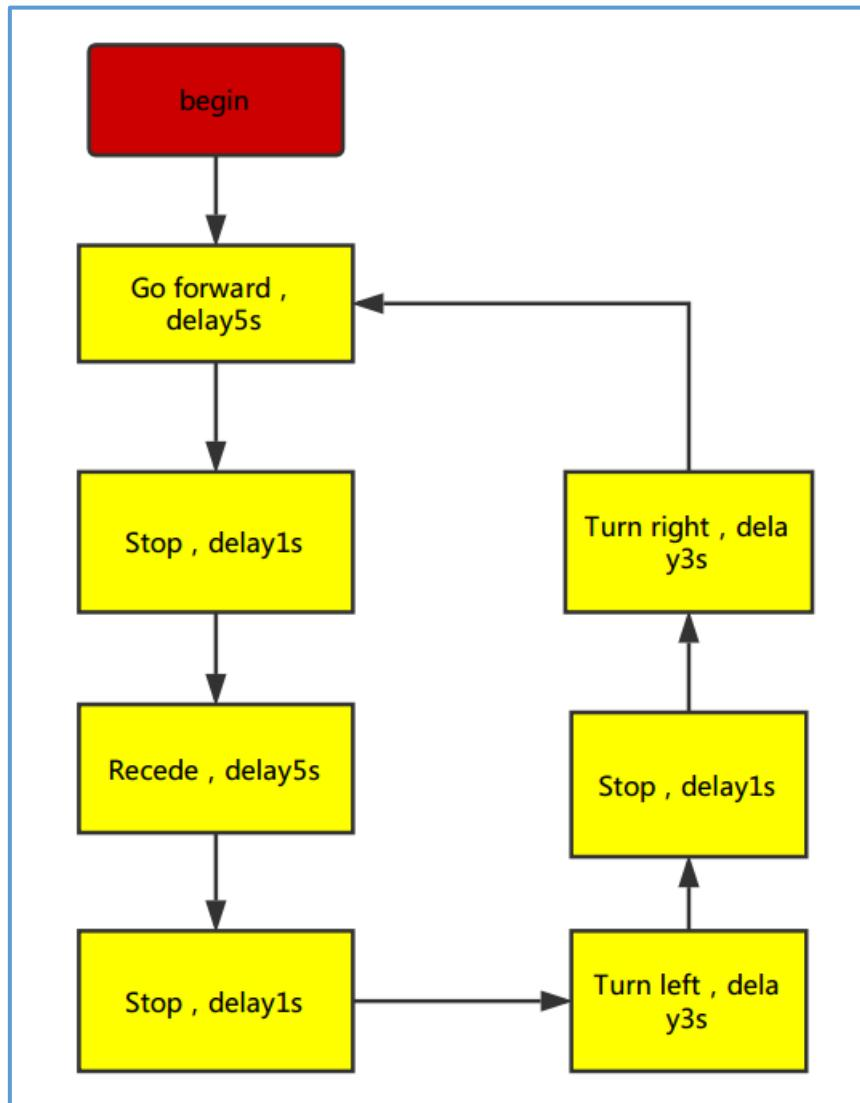

Figure 3.2.9 Motor Test Flow Chart
1. The module output port OUT can be directly connected with the IO port of the microcontroller, and directly drive a 5V relay; the connection mode is: VCC-VCC; GND-GND; OUT-IO (A3 and A4), as shown in Fig.3.2.9 and Chart 3.2.1.